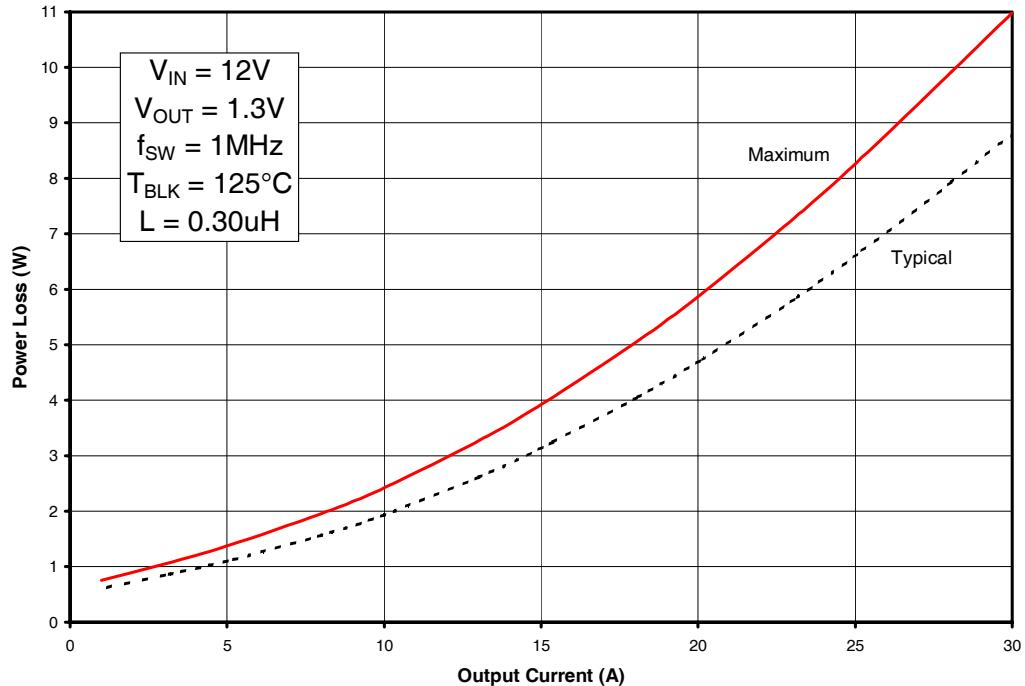
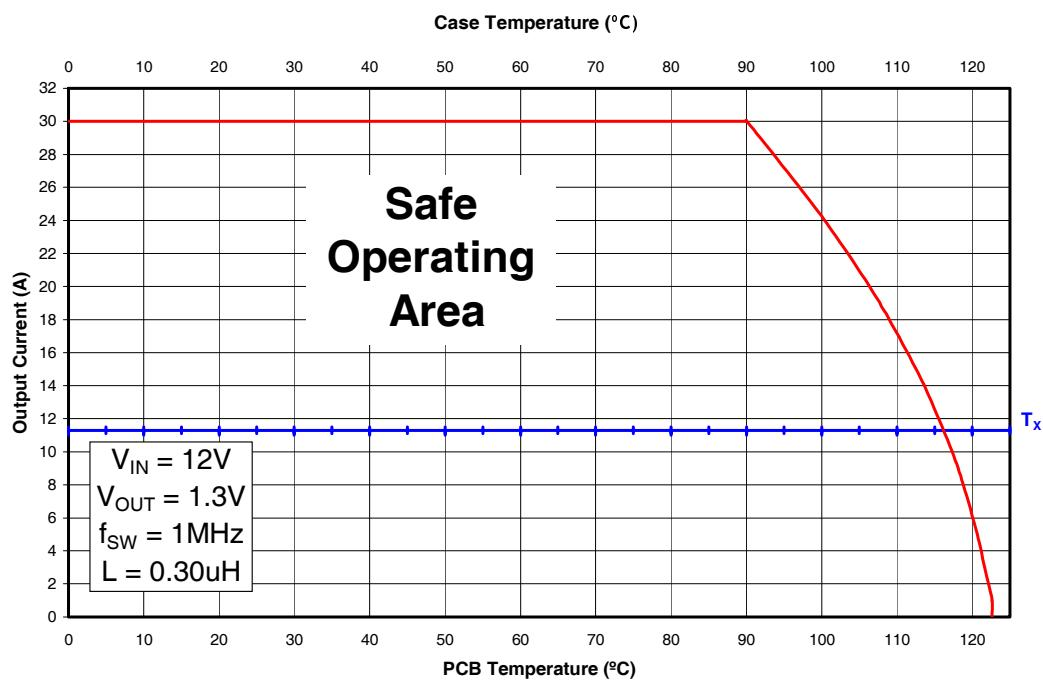
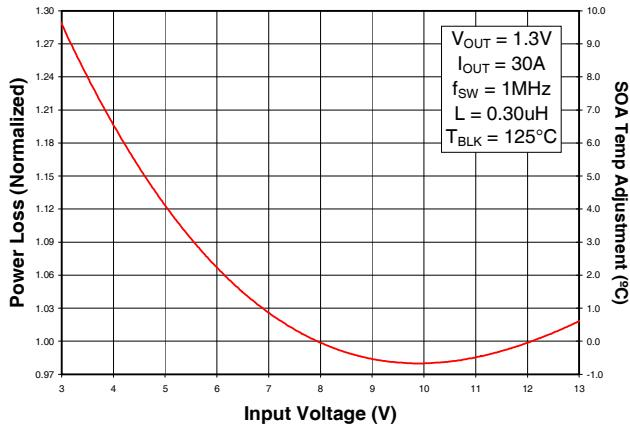

Fig. 1: Power Loss vs. Current
Fig. 2: Safe Operating Area (SOA) vs.  $T_{PCB}$  &  $T_{CASE}$
Fig. 3: Normalized Power Loss vs. VIN
To make adjustments to the power loss curves in Fig. 1, multiply the normalized value obtained from the curves in Figs. 3, 4, 5 or 6 by the value indicated on the power loss curve in Fig. 1. If multiple adjustments are required, multiply all of the normalized values together, then multiply that product by the value indicated on the power loss curve in Fig. 1. The resulting product is the final power loss based on all factors. See example no. 1.
To make adjustments to the SOA curve in Fig. 2, determine your maximum PCB Temp & Case Temp at the maximum operating current of each iP2002PbF. Then, add the correction temperature from the normalized curves in Figs. 3, 4, 5 or 6 to the  $T_x$  axis intercept (see procedure no. 2 above) in Fig. 2. When multiple adjustments are required, add all of the temperatures together, then add the sum to the  $T_x$  axis intercept in Fig. 2. See example no. 2.
- (Fig. 1) Maximum power loss = 11W
- (Fig. 3) Normalized power loss for input voltage  $\approx 0.98$
- (Fig. 3) Normalized SOA Temperature for input voltage  $\approx -0.8^\circ\text{C}$